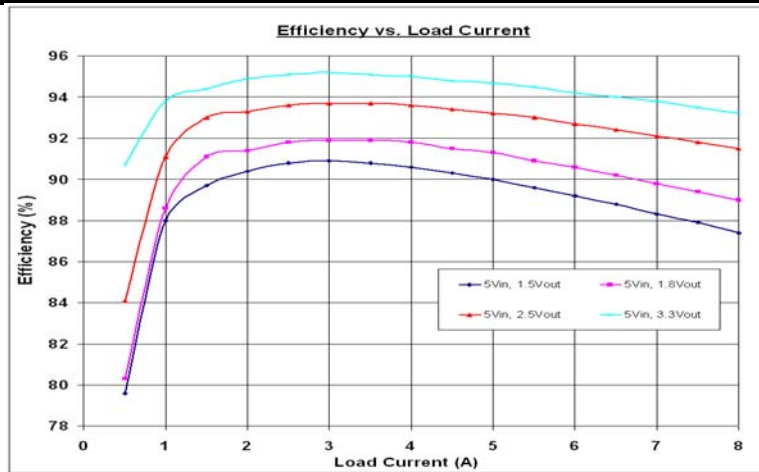
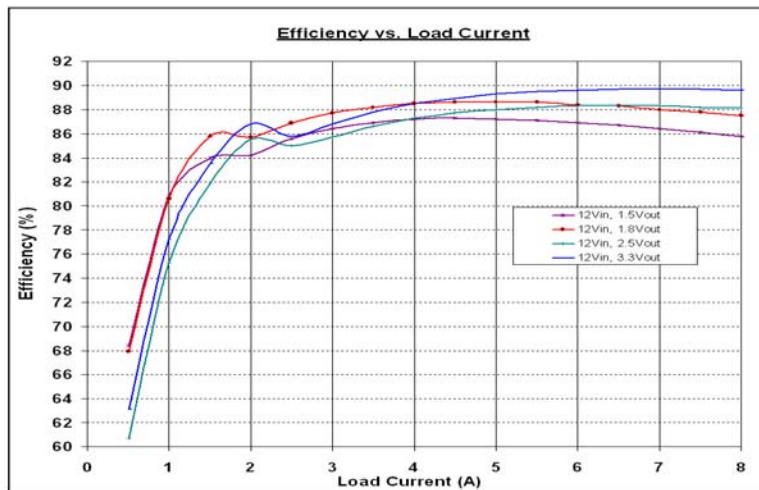

Figure 3. Typical Supply Efficiency vs Load Current of DC1320A-A at Vin=5V
Figure 4. Typical Supply Efficiency vs Load Current of DC1320A-A at Vin=12V
6. Typical efficiency curves are shown in Figure 3, Figure 4 and Figure 5.